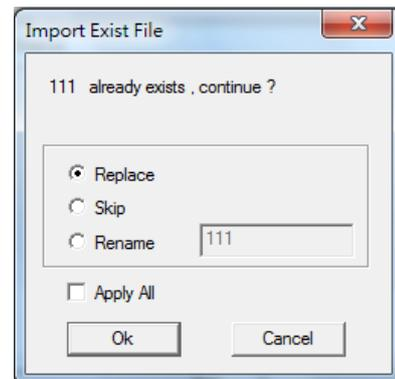

Fig. 1.1.71
1. Click on “File” → “Configuration Import/Export” to bring out dialog seen as fig. 1.1.71.